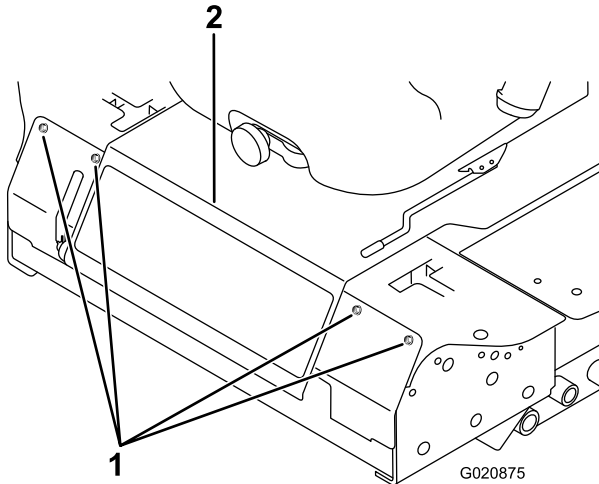

Figure 56
2. Remove the bolts securing the front panel and remove the panel (Figure 56).